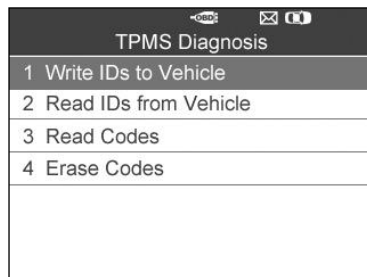

Figure 4.21
- 1) From **TPMS Diagnosis** Menu, use the **UP/DOWN** scroll button to select the **Read IDs from Vehicle**, and press the **Y** button (Figure 4.21).
- 1) From **TPMS Diagnosis** Menu, use the **UP/DOWN** scroll button to select the **Read Codes**, and press the **Y** button (Figure 4.21).
- 1) From **TPMS Diagnosis** Menu, use the **UP/DOWN** scroll button to select the **Erase Codes**, and press the **Y** button (Figure 4.21).